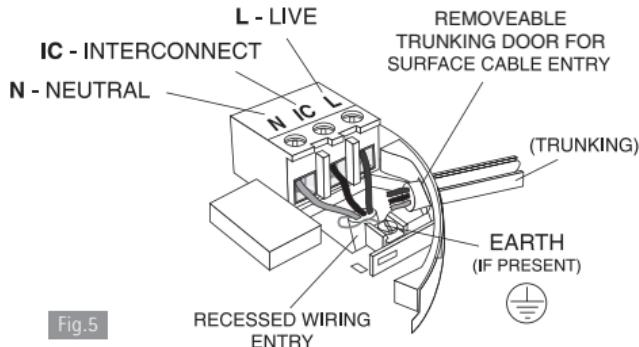

Fig.5
**IC: Interconnect** - see figures 5 and 6 and further information in Section 2.7.
4. If the mains wires are recessed, bring the wires through the rear hole in the mounting plate as shown in Figure 5.
(a) position the mounting plate so the cable trunking is as shown in Figure 5.